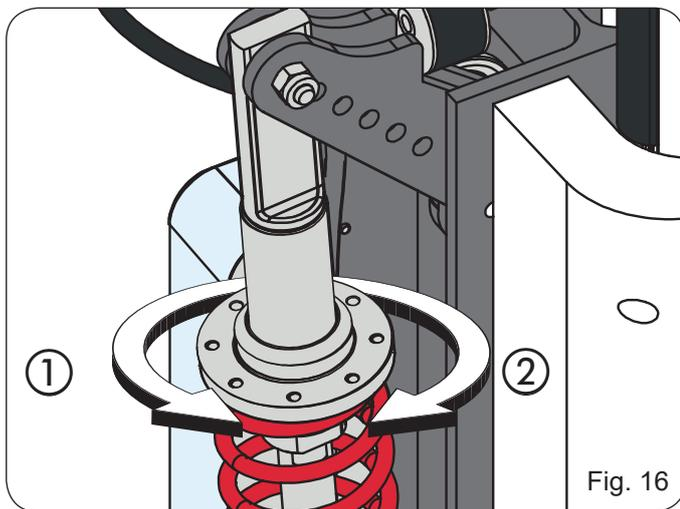

Fig. 16
- Manually move the beam to the 45° position and verify that it remains stationary. If the beam tends to open, turn the spring preload ring nut anti-clockwise (Fig. 16 ref. ①); if it tends to close, turn the ring nut clockwise (Fig. 16 ref. ②).